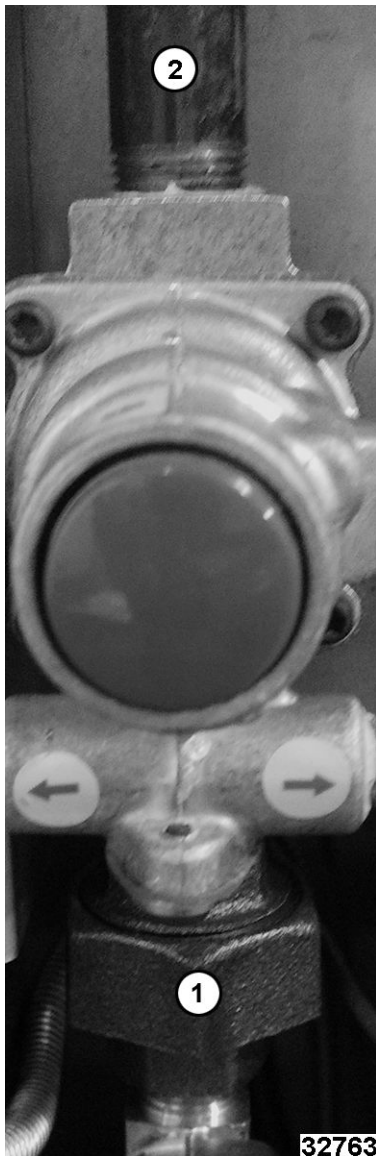

Fig. 22
3. Remove union fitting (1, Fig. 22) and pipe fitting (2, Fig. 22) from top and bottom of pilot safety valve.